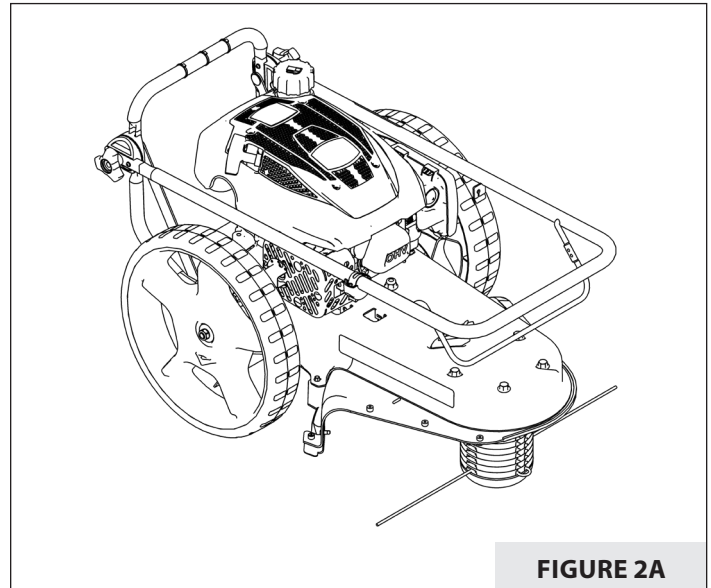

FIGURE 2A
4. Pull the mower out of the carton. **SEE FIGURE 2A.**